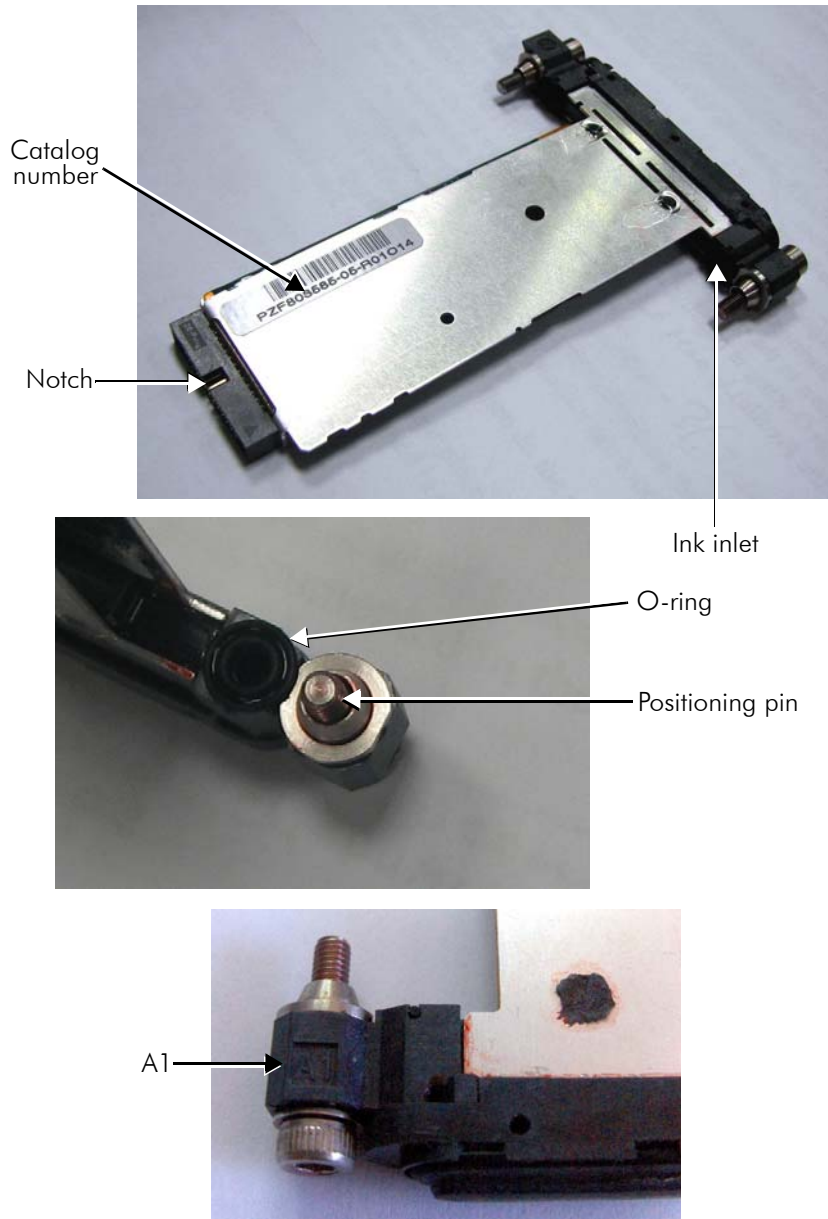

Figure 8-4 Print Head Structure
- 8 Verify the existence of two O-rings at the ink inlet to the heads (see Figure 8-4 on page 86). If they are not there, they may stay on the ink bar.
- The print head is connected to the ink bar with two screws. These screws look identical, but the left one is marked as "A1" (see Figure 8-4 on page 86) and serves for precise positioning of the print head.